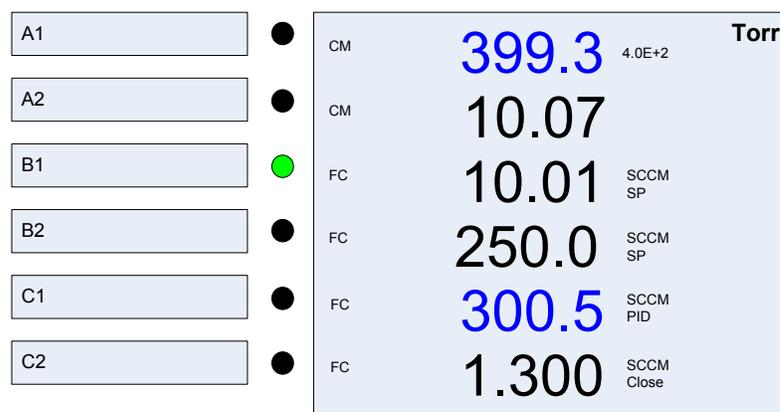

Figure 6-18 Front Panel Display during PID Control using Single MFC
- During PID control process, the active MFC flow reading and corresponding controlling pressure gauge reading are displayed in blue color to identify these channels. PID will be displayed as well to indicate the MFC channel under the PID control (C1 in Figure 6-18).